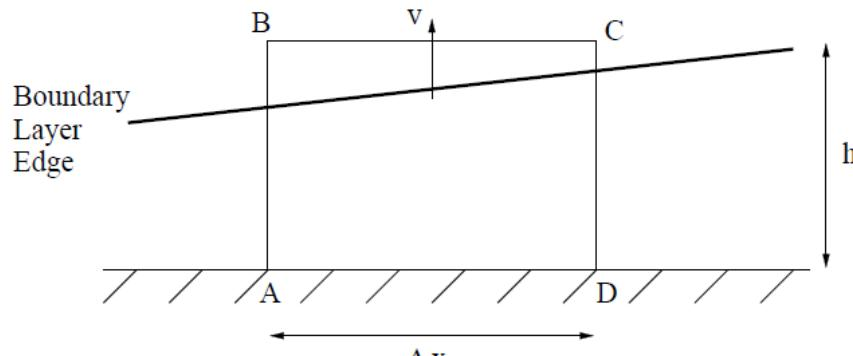

Figure Q3: boundary layer control volume
- (a) Given that the mass flux across AB is $\int_0^h \rho u dy \Big|_{AB}$ and the mass flux across DC is $\int_0^h \rho u dy \Big|_{DC}$, write down the steady conservation of mass equation for the control volume in figure Q3, and take the limit as $\Delta x \rightarrow 0$. Make sure to include the contribution from face BC.